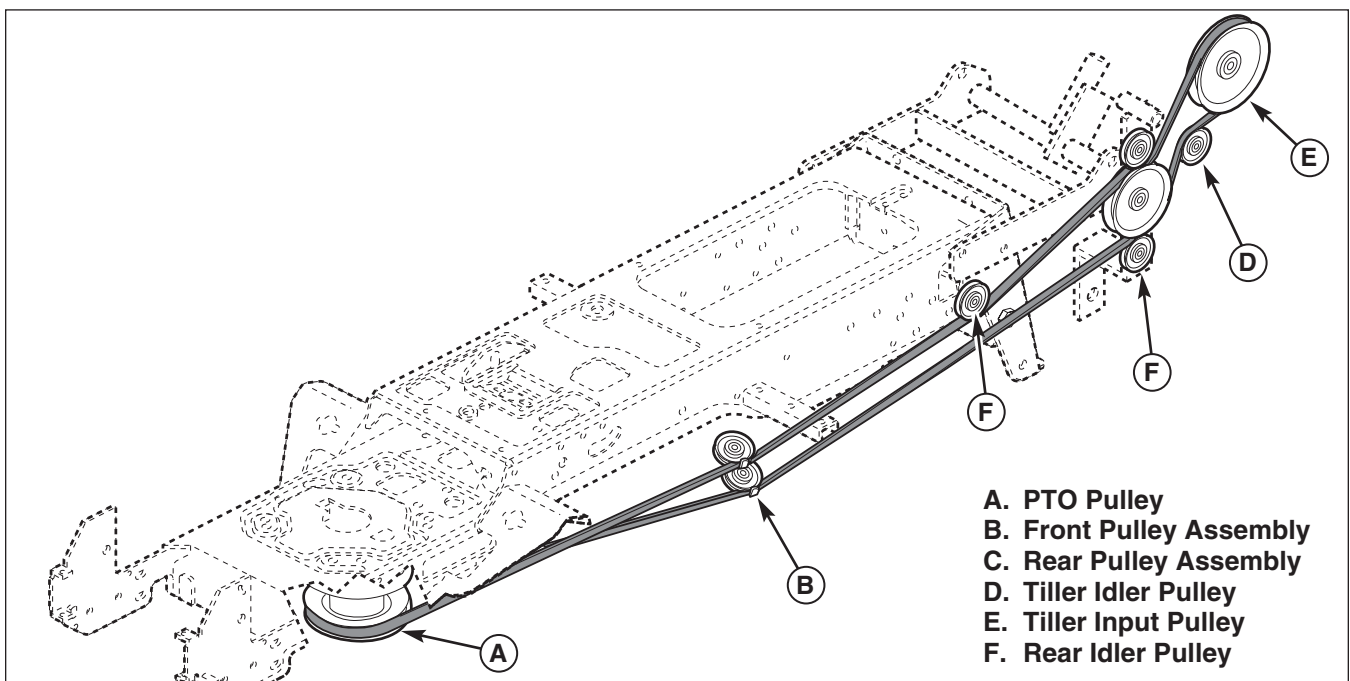
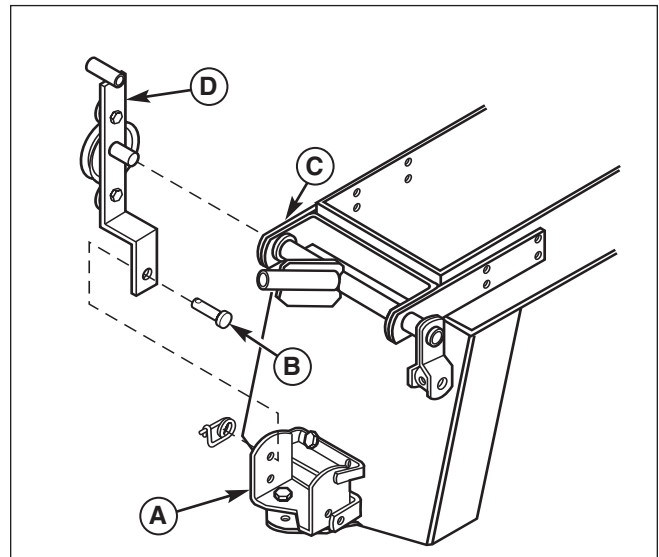

Figure 14. Belt Routing
Figure 16. Install Pulley Assembly
2. Install the belt on the rear pulley assembly (C, Figure 14) and tiller input pulley (E). The smaller upper and lower pulleys of the rear pulley assembly (C) should trap the belt in the middle pulley groove with the belt routed below the rear idler pulley (F) as shown.
3. Install the belt on the front pulley assembly (B) and PTO pulley (A). Adjust the front pulley assembly belt guides within 1/16" of the belt.
4. Route the belt inside the spring-loaded tiller idler pulley (D).
2. Remove the belt from the PTO pulley (A, Figure 14).
3. Remove the front pulley assembly (B).
4. Remove the pin (B, Figure 16) securing the rear pulley assembly.
6. Install the rear pulley assembly (D, Figure 16).